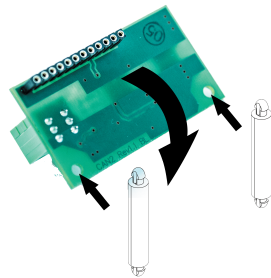

Fig. 04: CAN-bus module installation
- ▶ Plug the CAN-bus modules together with the spacers onto the pc-board of the corresponding BlueCool unit. For example see Fig. 04 and Annex Fig. 07.